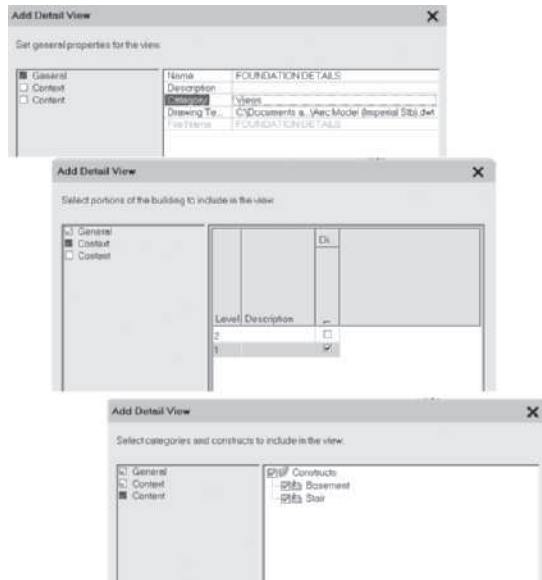

FIGURE 12.97 Add Detail View dialog box
30. In the Add Detail View dialog box shown in Figure 12.97, type **FOUNDATION DETAILS** in the Name field and verify Category = Views. Click Next to move to the Context page and check Division 1 for Level 1 [G]. Click Next to move to the Content page. Verify that Constructs, Basement, and Stair are checked. Click Finish to dismiss the **Add Detail View** dialog box.